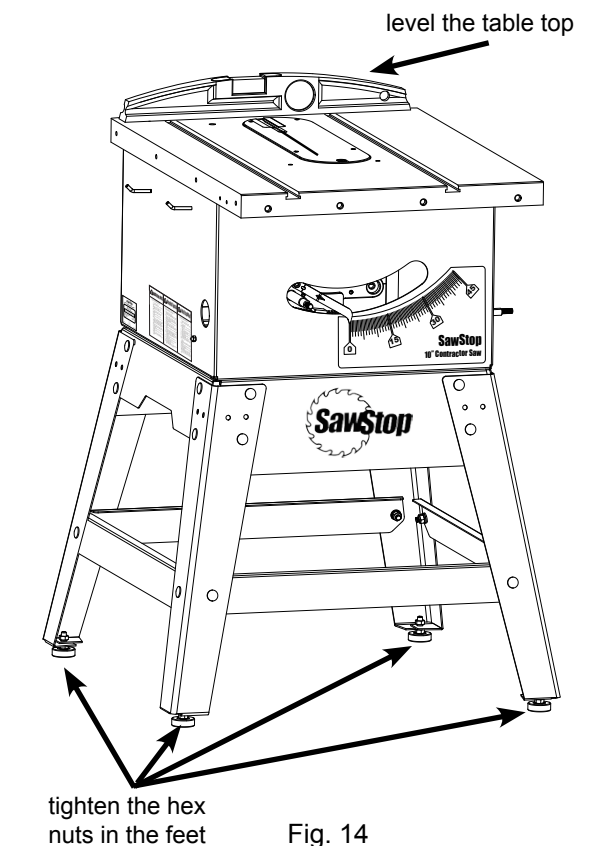

Fig. 14
- Place a level across the table top and adjust the four feet of the stand by turning the lower hex nuts until the table top is level (you may need to loosen the upper hex nuts). When the saw is level, tighten each of the upper hex nuts with a 13 mm wrench while holding the foot against rotation (see Fig. 14).